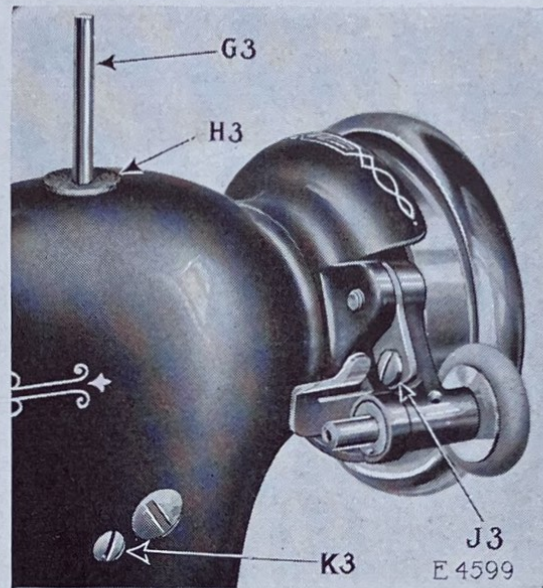

FIG. 34. ADJUSTMENT OF BOBBIN WINDER
the adjusting screw (J3, Fig. 34) and press down on the bobbin winder until the pulley is in contact with the hub of the balance wheel, then tighten the adjusting screw (J3). The pressure of the bobbin winder pulley against the hub of the balance wheel should be just sufficient to cause the bobbin winder pulley to rotate. Too much pressure will prevent the bobbin winder pulley rotating.
- (b) Remove the screw (K3, Fig. 34, page 39) which holds the motor.
- (j) Replace the screw (K3, Fig. 34). The final position of the motor has an important bearing on the free running of the machine, and it may be necessary to slightly shift the motor to the left or right before the final tightening of the screw (K3).